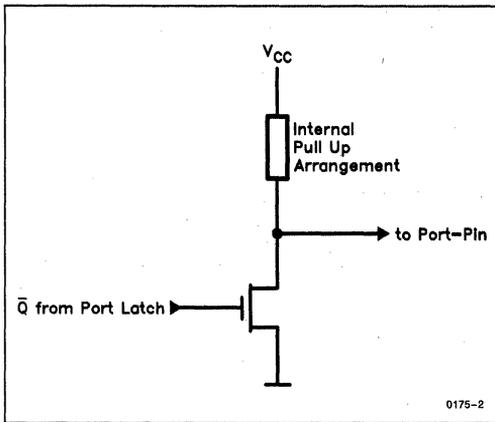
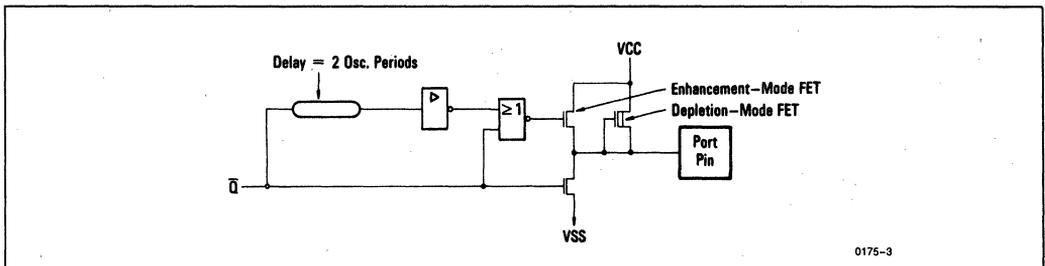

Figure 3-2. Basic Output Driver Circuit of Ports 1 through 5
Figure 3-3. Output Driver Circuit of Ports 1 through 5, Detailed Circuit Diagram
Port 1 through 5 output drivers have internal pullups (see Figure 3-2). Each I/O line can be used independently as an input or output. To be used as an input, the port bit must contain a one (1) (that means for Figure 3-2:  $\bar{Q} = 0$ ), which turns off the output driver FET. Then, for ports 1 through 5, the pin is pulled high by the internal pullup, but can be pulled low by an external source. When externally pulled low the port pins source current. For this reason they are sometimes called "quasi bidirectional". In fact, the pullups mentioned above and drawn in Figure 3-2 are pullup arrangements as shown in Figure 3-3. Two pullup FETs are used because the deep depletion type is able to restrict the low level input current ( $I_{IL}$ ) when externally pulled low, but it is not strong enough to drive a fast 0 to 1 transition at the port pin. For the latter purpose an additional pullup is turned on for the two phases (S1P1 and S1P2) in which the transition occurs. The extra pullup can drive about 100 times the current that the normal pullup can. It should be noted that all internal pullups are FETs, not linear resistors.